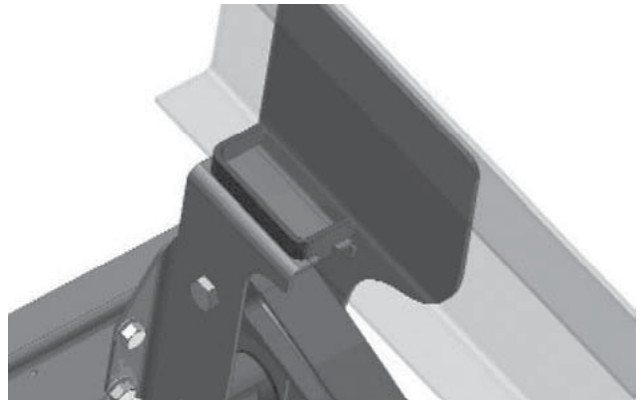

Figure 2 - Bushing saddle spacer
3. Position spacers, per figures 2 and 3, to accommodate required ride height. The same spacer size must be used for bushing saddles and air spring plates.